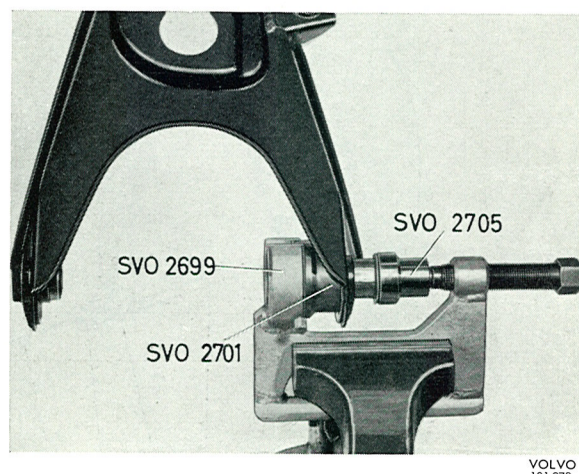

Fig. 6-30. Fitting the rubber bush, lower wishbone
3. Press in the bushes with drift SVO 2705 (turned in the opposite direction) and the tool SVO 2701 and press tool SVO 2699, see Fig. 6-30.